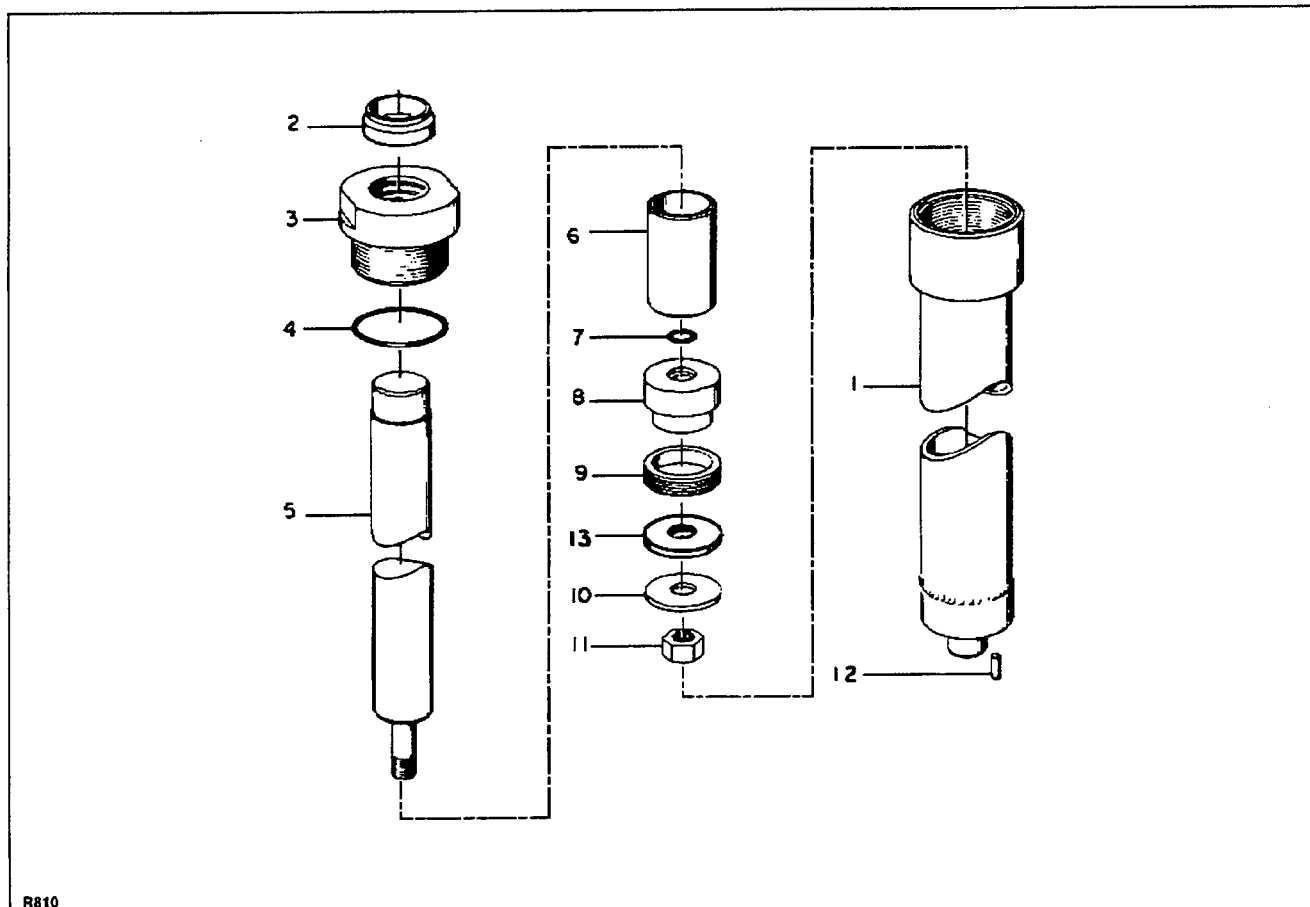

Figure 9-12. Lift Cylinder (Non-Telescopic and Telescopic)
1. Secure lift cylinder tube assembly in vise and remove gland nut (3, Figure 9-12), then wiper ring (2), and top O-ring (4).
2. Pull out cylinder ram rod (5).